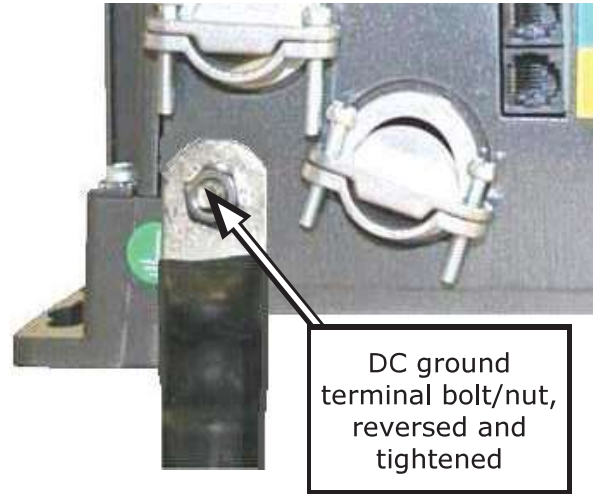

Figure 2-16, Connecting a Large DC Ground Wire
DC Side – Since the currents on the DC side are higher than the AC side (10 times at 12 volts), the equipment grounding needs are different. The DC equipment grounding conductor is sized per Table 2-4, and connected to the DC equipment grounding terminal on the inverter as shown in Figure 2-16.
4. Reverse the removed bolt, and place it back in the chassis hole. Attach a correctly sized ground cable with a ring terminal to the ME's chassis—as shown in Figure 2-16.